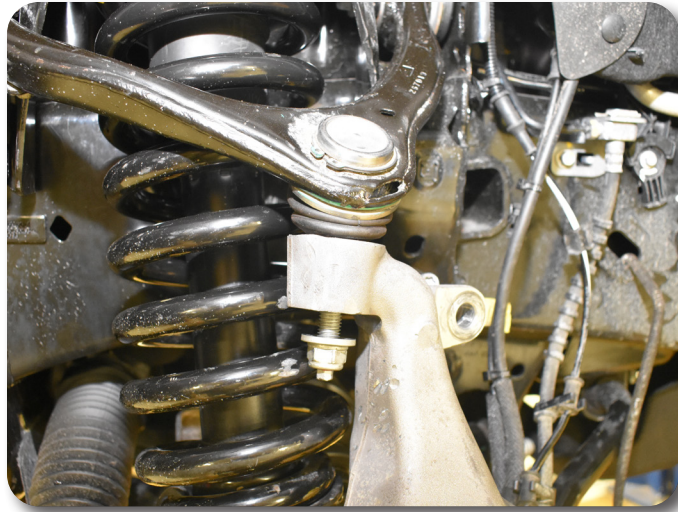

Figure 7
11. Support the lower control arm with a hydraulic jack. Remove the upper ball joints from the knuckle. Use an appropriate ball joint separator to dislodge the upper ball joint taper from the knuckle. Figure 7 Allow the knuckle to rest back away from the front strut.